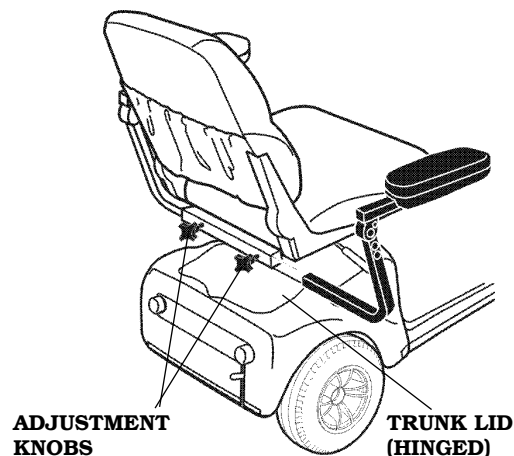

FIGURE 13. REMOVING THE SEAT
1. Loosen the adjustment knobs. See figure 13.
1. Open the trunk lid. See figure 13.